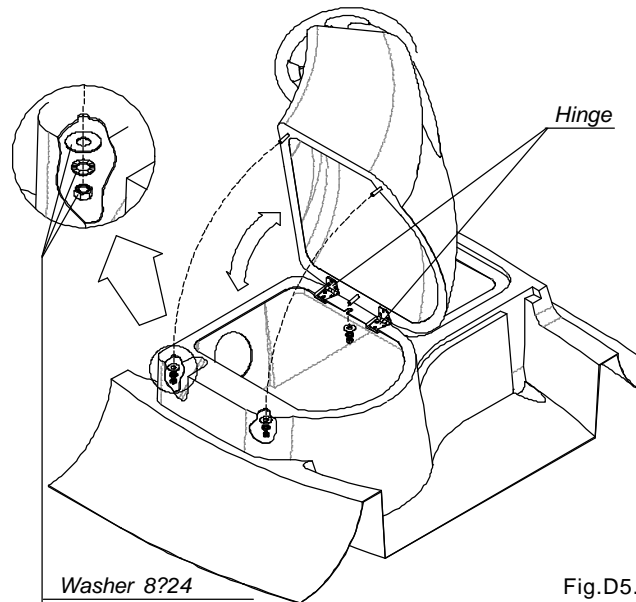

Fig.D5.
- turn off three nuts M8 with washers 8x24 and arrester washers 8, (Fig.D5);
- hing up the overhead part of the console, (Fig.D5).
Before the exploitation of the boat hing down the overhead part of the steering console and fix it to the lower part with the help of three nuts M8 with washers 8x24 and arrester washers 8 (Fig.D5).